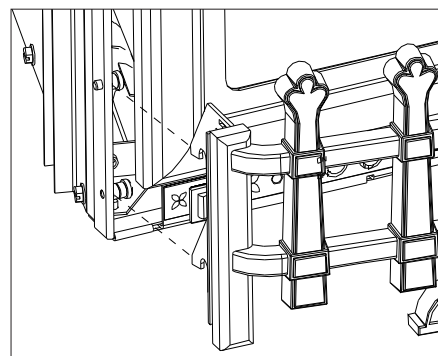

Figure 68: Hook Placements.
Hook the Andiron assembly over the two (2) bushings at either side of the bottom of the Sonnet (see Figure 68) and snap them firmly down into place. When in place it will look similar to the image on the front cover of this Sonnet Owner's Manual.